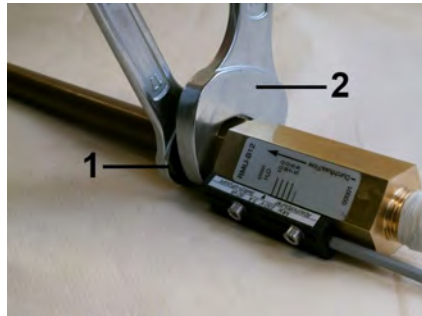

Fig. 16: Screw in the device (outlet)
5. ➤ Keep turning in the adapter union (Fig. 16/1) while holding the process connection of the device locked (Fig. 16/2) until the connection is tight.